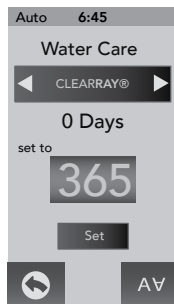

Figure 12.7c
1. From the “Water Care” Menu you can to set the ClearRay UV bulb timer, Figure 12.7c.
A programmable “Water Refresh” reminder can be set to remind you when to drain and refill the spa. Tap ► (Figure 12.7c) until you reach the “Water Refresh” tab to enter the Programming Menu.